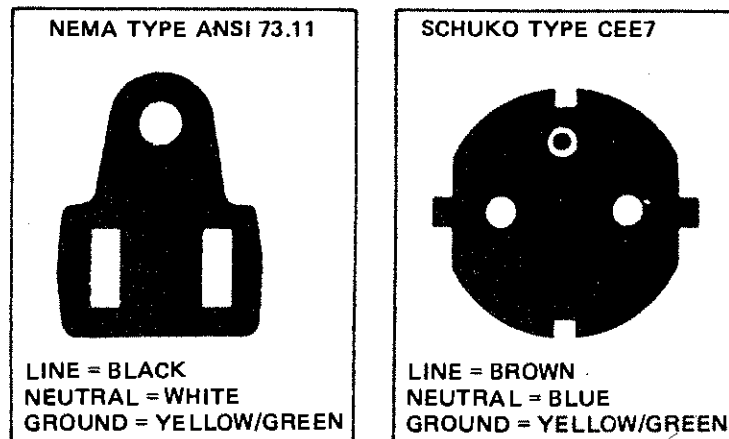

Figure 2-2. Select Proper Line Voltage as Indicated on Voltage Selector Plug
1. Locate voltage selector plug (Figure 2-2) on rear panel of instrument.